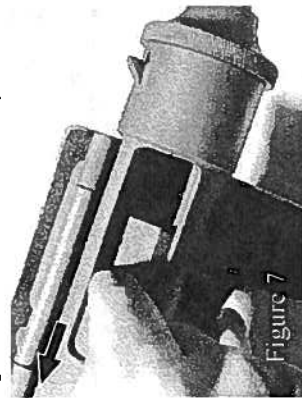

Figure 7
- 1) Pull the bolt to the rear (figure 7) so that it clears the magazine and the round to be chambered.